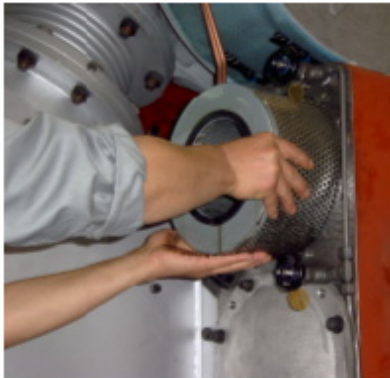

Fig. 4
5. Open the filter cover and remove the filter cartridge and the 2nd filter. [Fig. 4, 5.,6]